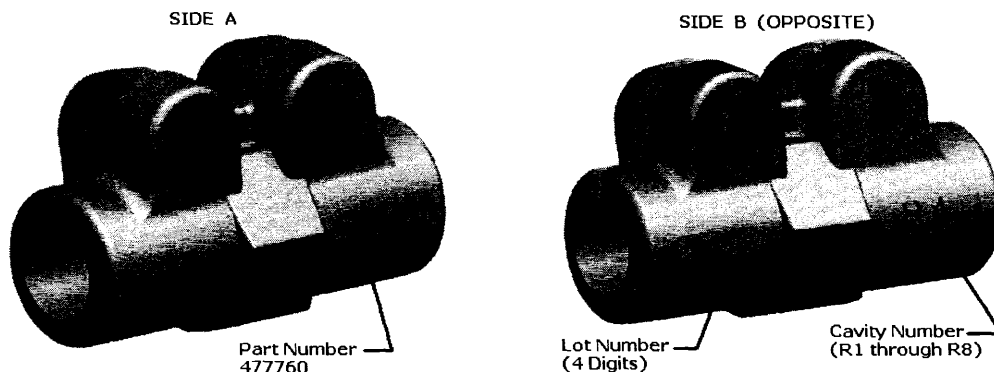

Figure 1: Clamp Identification Aid
- Castings are identified by a raised part number 477760 cast in them on one side and a cavity number and lot number beginning with a letter followed by 3 numbers (X_ _ _) on the other. See Figure 1.
After the bus is put on a lift where the rods can be easily accessed and inspected, the suspect clamps can be identified as noted in the attached photo (Figure 1).